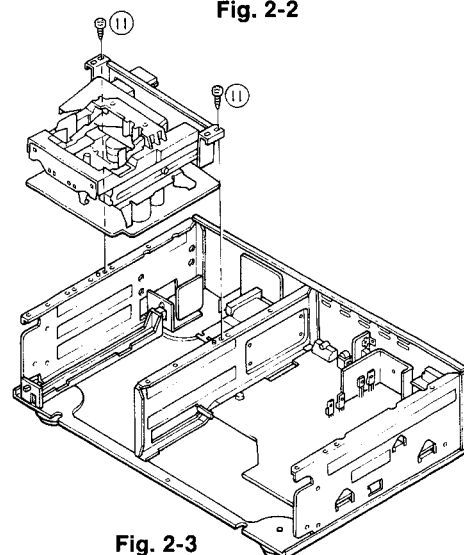

Fig. 2-3
■ Mechanism Assembly: See Fig. 2-3
1. Remove the Upper Cover and remove the 2 screws ⑪ attaching the mechanism bracket to the chassis.